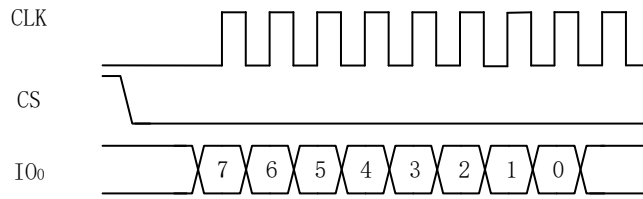

Figure 5 Instruction Sending Sequence in Single-line Mode
1. To send instructions in the single-line mode, the IAT bit of control register 3 (QSPI\_CTRL3) needs to be configured to 0x00 or 0x01. The instruction sending sequence in single-line mode is shown in Figure 5 Instruction Sending Sequence in Single-line Mode.